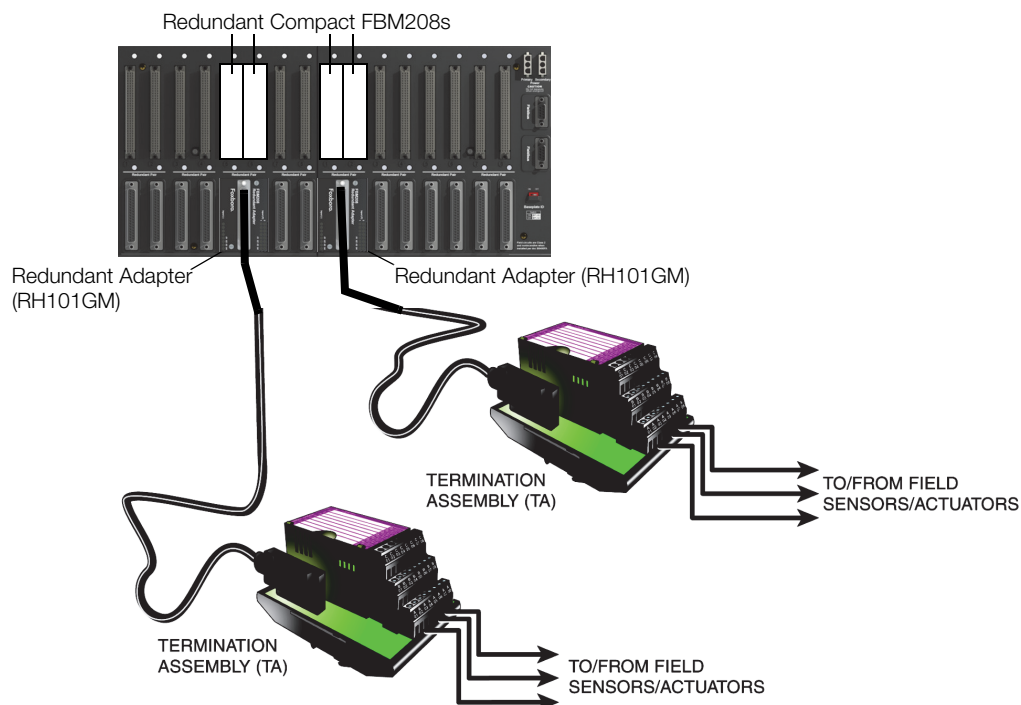

Figure 1. Redundant Compact FBM208 I/O Configuration (2 Pairs Shown)
A redundant pair of the Compact FBM208s combine to provide redundancy at the Fieldbus Module (FBM) level, with field I/O wired to one common termination assembly (see Figure 1). Each module independently attempts to hold the output(s) at its specified output value(s), and each independently reports its observed value of the inputs.
Redundant modules must be located in adjacent positions on the baseplate, with the first module located in an odd-numbered position (for example, the positions labelled “3” and “4”). To achieve redundancy, a redundant adapter module is placed on the two adjacent baseplate termination cable connectors to provide termination for a single cable (see Figure 1). A single termination cable connects from the redundant adapter to the associated termination assembly (TA).